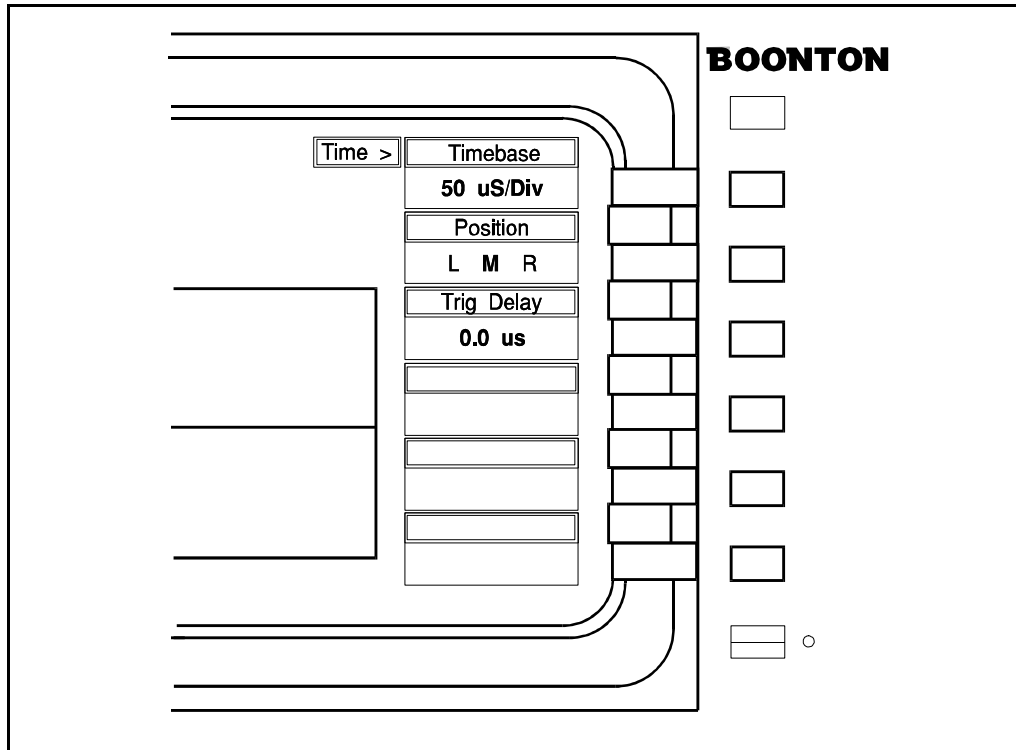

Figure 3-7. *Time >* Menu
*Chan 1 > Extensions >* Press the *Chan 1 > Extensions* menu key to access the *Extensions* submenu (Figure 3-7).